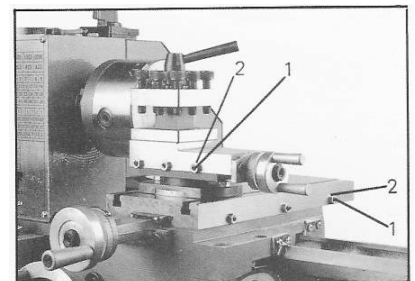

Fig 25
Each slide is fitted with a gib strip and can be adjusted with screws (1, Fig 25) fitted with lock nuts (2).